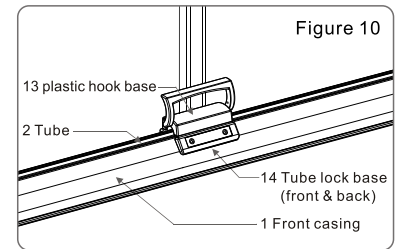

Figure 10
2. Remove the handle from the fastener at the top of uphold bar .Grasp the handle, lower the screen to allow it retract into the case . Be sure the handle base connected with tube lock base. (Figure 10)